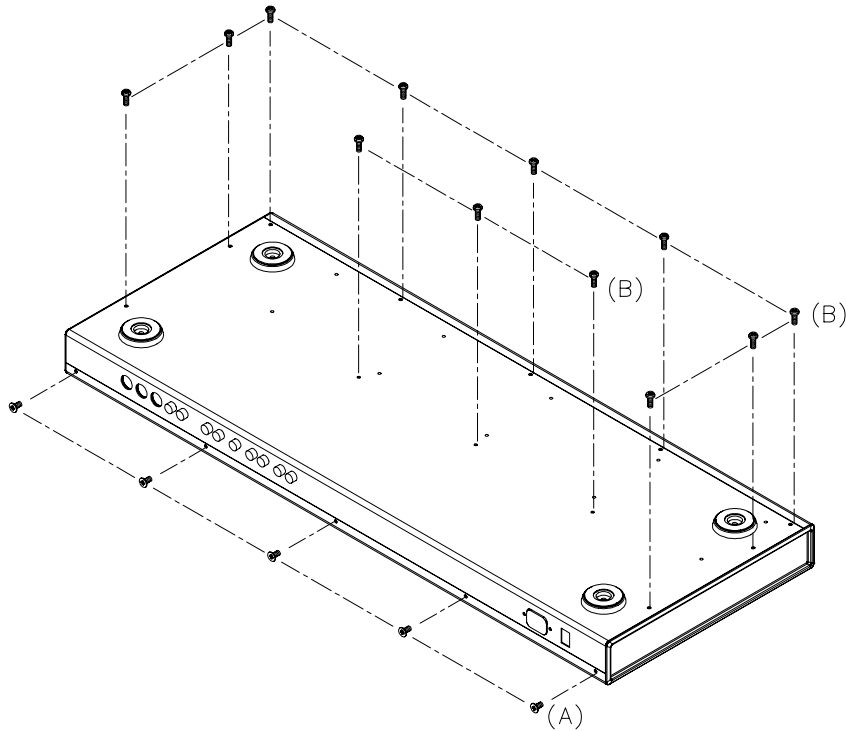

Fig.1
1. REMOVAL OF TOP COVER / FRONT BOTTOM PANEL (Fig.1)
- (A) TAKE OUT THE 5 PCS SCREWS FROM WHICH THE REAR PANEL.
- (B) TAKE OUT THE 12 PCS SCREWS FROM WHICH THE BOTTOM PANEL